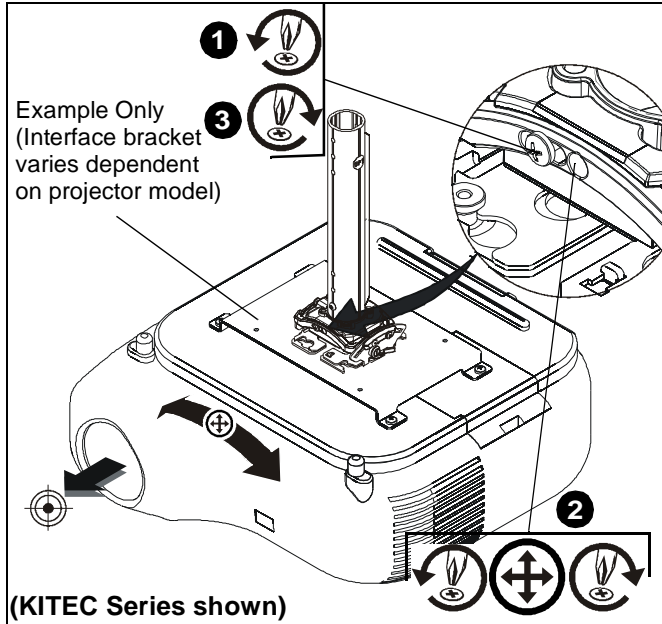

Figure 25
1. Loosen ROLL adjustment locking screw using a #2 Phillips screwdriver. (See Figure 25)
2. Turn ROLL micro-adjustment screw right or left using a #2 Phillips screwdriver until image is properly aligned on target. (See Figure 25)
3. Tighten ROLL adjustment locking screw using a #2 Phillips screwdriver. (See Figure 25)